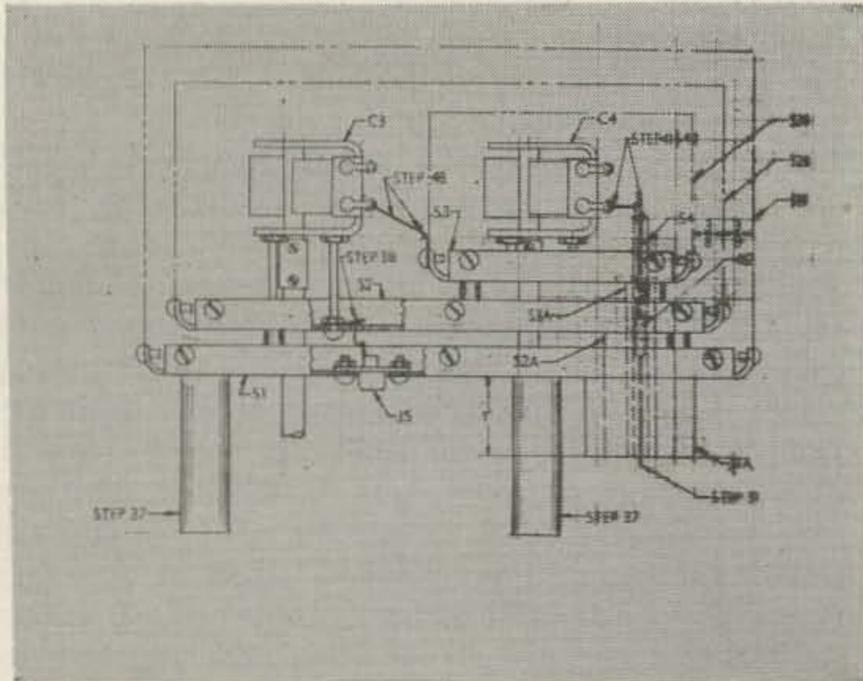

Fig. 4—Reactance Assembly—Inboard view
37. Attach four type I3 insulators to shield platform S1, using the $4\frac{1}{4}$ -inch-spaced holes in S1 and 6-32 screws. Attach S1A to S1, using 6-32 screws from the inside of S1. Attach the female phono socket to S1 in the $\frac{7}{16}$ -inch diameter hole. Attach four type I1 insulators, using $\frac{1}{4}$ -inch-long 6-32 screws. Do not tighten the screw in the hole marked "Hole A" in Fig. C1; this screw will hold a cable clamp later. See Fig. 4 for details of insulator placement.
38. Attach four type I1 insulators to shield platform S2, using the $2\frac{3}{8}$ -inch-spaced holes in S2 and $\frac{1}{4}$ -inch-long 6-32 screws. Attach S2A to S2. Attach capacitor C3 with $1\frac{1}{4}$ -inch-long 6-32 screws, using two nuts on each screw as shown in Fig. 4. Mount a soldering lug under one nut as shown. Align the capacitor by adjustment of the mounting screws and nuts.
41. Connect two of the stator lugs of C4 with No. 18 tinned wire as shown in Fig. 4. Slide shield assembly S4 into S3A. Center assembly S4 in S3A, using a piece of $\frac{1}{4}$ -inch-long insulating tubing. Make certain that opposite ends of S4 and S3A are even as shown in Fig. 4, and cement tubing in place with Duco. Solder the shorted end of resistor R2 (which is in S4) to the wire connecting stator lugs of C4.
43. Place a $\frac{1}{4}$ -inch-long 6-32 screw in the flange of S3 as shown in Fig. 4, with a soldering lug. Connect this lug to the stator lug of C3 with No. 18 tinned wire. Using $\frac{1}{4}$ -inch-long 6-32 screws, mount a soldering lug in Hole B (see Fig. C1) of S1 and another in S2 as shown in Fig. C2. These lugs are mounted in a direction opposite to that of the platform flanges.